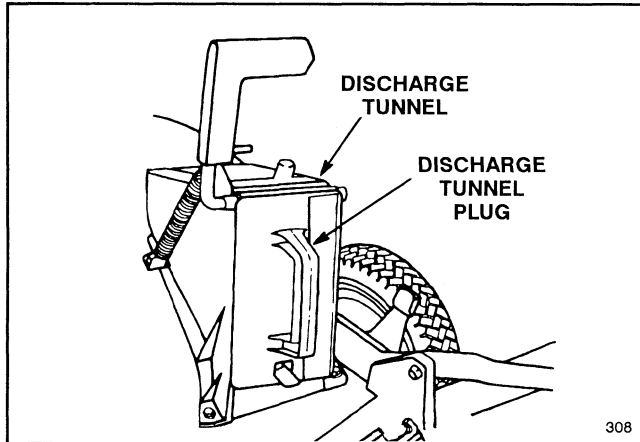

Figure 16
1. **Recycler® Rear Bagging Kit, Model No. 59179**—Install discharge tunnel and rear mounting grass bag to convert Recycler® mower to a rear bagging mower (Fig. 16). Includes discharge tunnel plug.